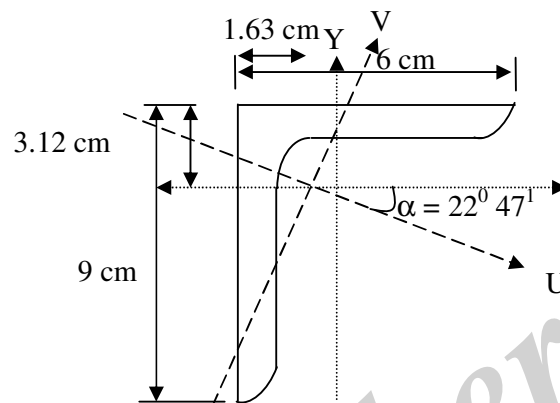

Figure 1
b) An angle section 9 cm X 6 cm X 1.2 cm is used as a cantilever of one meter length with 6 cm leg as shown in Figure 1. Horizontal. A vertical load of 1000 N is applied at the free end. Determine the position of the neutral axis and the maximum stress set up.  $I_{uu} = 147.5 \text{ cm}^4$ ,  $I_{vv} = 26.8 \text{ cm}^4$ ,  $\tan \alpha = 0.42$ .